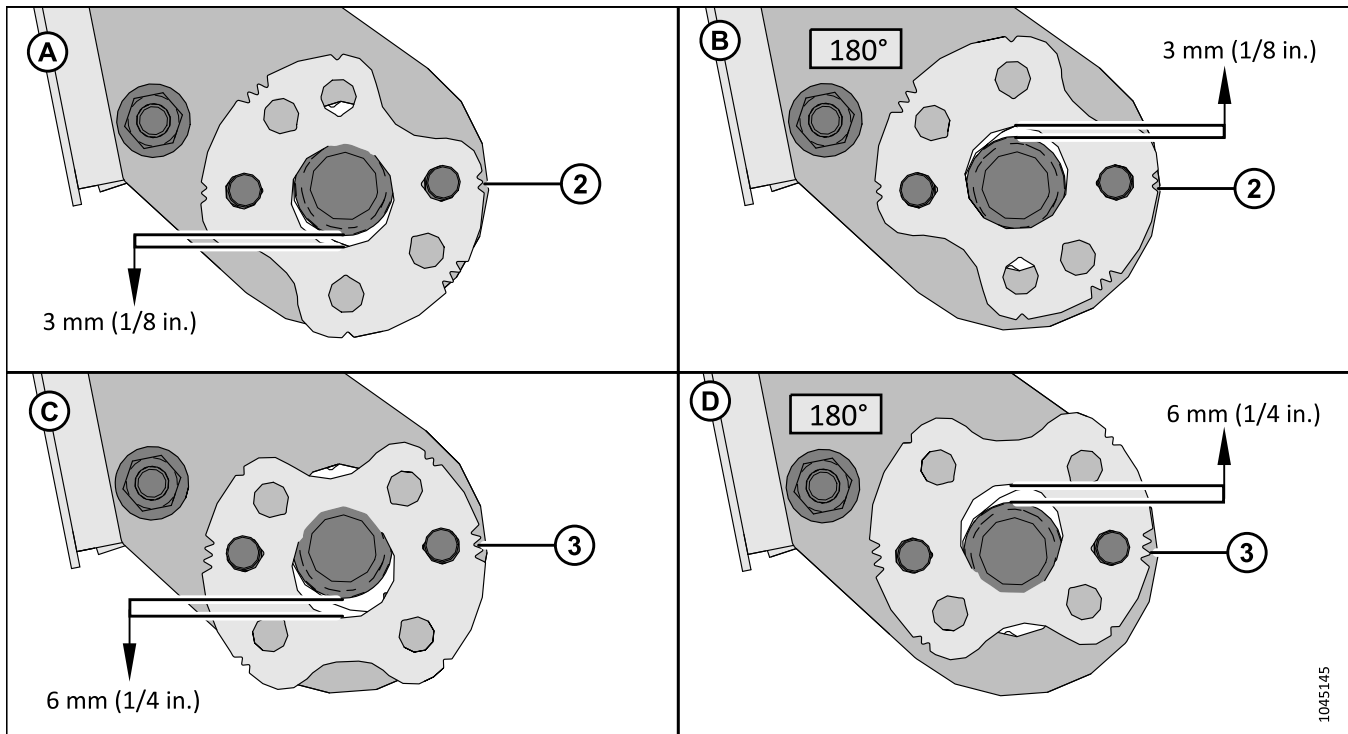

Figure 10.91: CR11 Adjuster Plate Positions
10. **CR11 combines:** If an adjustment is needed, note the position of locking pins compared to the center hole of the adjuster plates, remove nuts (C) and reposition adjuster plates (A) as needed. Refer to Figure 10.91, page 430.